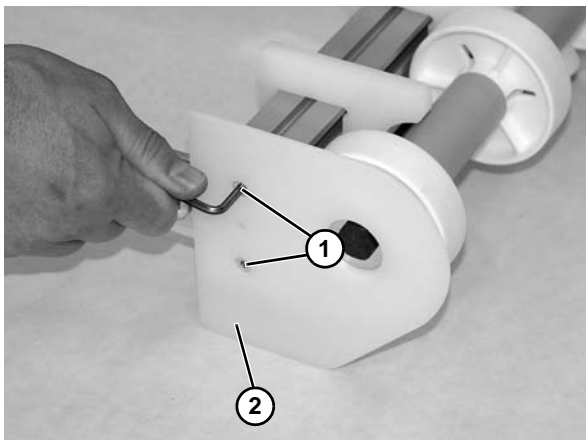

Figure 83
5. Remove two socket head screws (Figure 83, item 1) and filler plate (Figure 83, item 2).